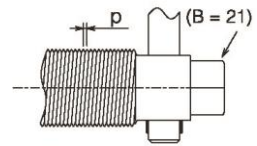

Fig. 3
3. A fine screw (automatic tightening) is used to apply a tightening force and also prevent the screw from slackening easily. (Refer to Fig. 3.)
8. The head of the screw has a hex hole for a ratchet spanner (B = 21). This enables you to install the clamp in a confined space without using the handle. (Refer to Fig. 3.)
9. You can use the clamp on a load whose grip surfaces are inclined at an angle of less than 10° with respect to each other (8° I-beam). Refer to item 8 of "Precautions for use."